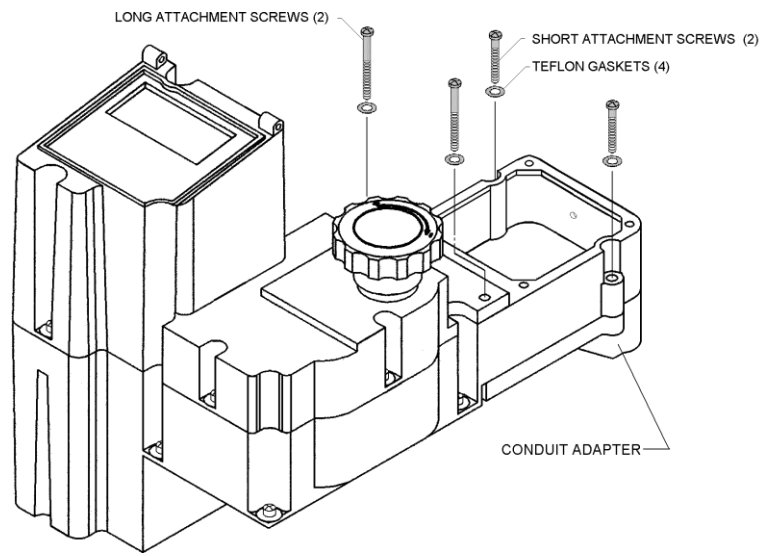

Figure 34 – Conduit Adapter Screw Removal
7. Remove the four screws and Teflon Gaskets that retain the conduit adapter(refer to **Figure 34**).
a) Install the four screws and Teflon Gaskets that hold the Conduit Adapter to the DLC (refer to **Figure 34**).
17. Remove the 4 wiring access cover screws and cover (refer to **Figure 34**).